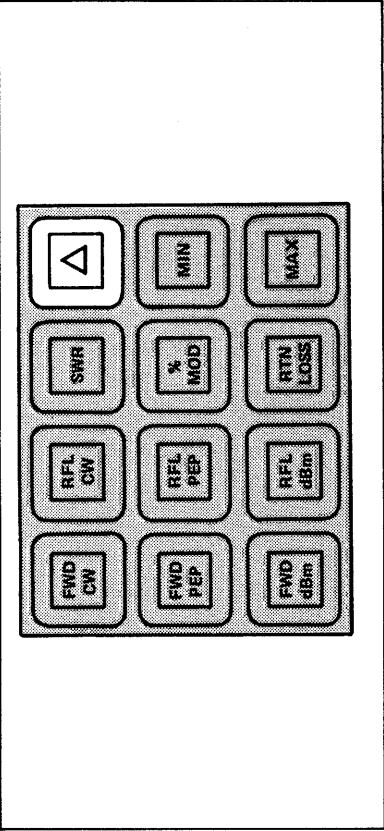

Figure 3-9. Peaking Aid (Δ).
i. Using the Peaking Aid. (Figure 3-9.) The peaking aid is useful for making adjustments to optimize any of the parameters which the 4391 measures. After the mode is selected, the delta (Δ) key is pressed momentarily. This blanks the least significant digit of the display, and replaces it with a right facing arrow head if the measured quantity is increasing and a left facing arrow head if it is decreasing. If there is no change, the digit is left blank. To find a peak, begin making the adjustment in whichever direction produces a right facing arrow head and continue slowly in that direction until the arrow head turns around. At this point the peak has been reached. To check to make sure the peak has not been passed, press the **MAX** key to read the highest value read and release it to read the current value. The two should be the same. Desired minimum levels (e.g. of reflected power or of SWR) are found in a similar manner.